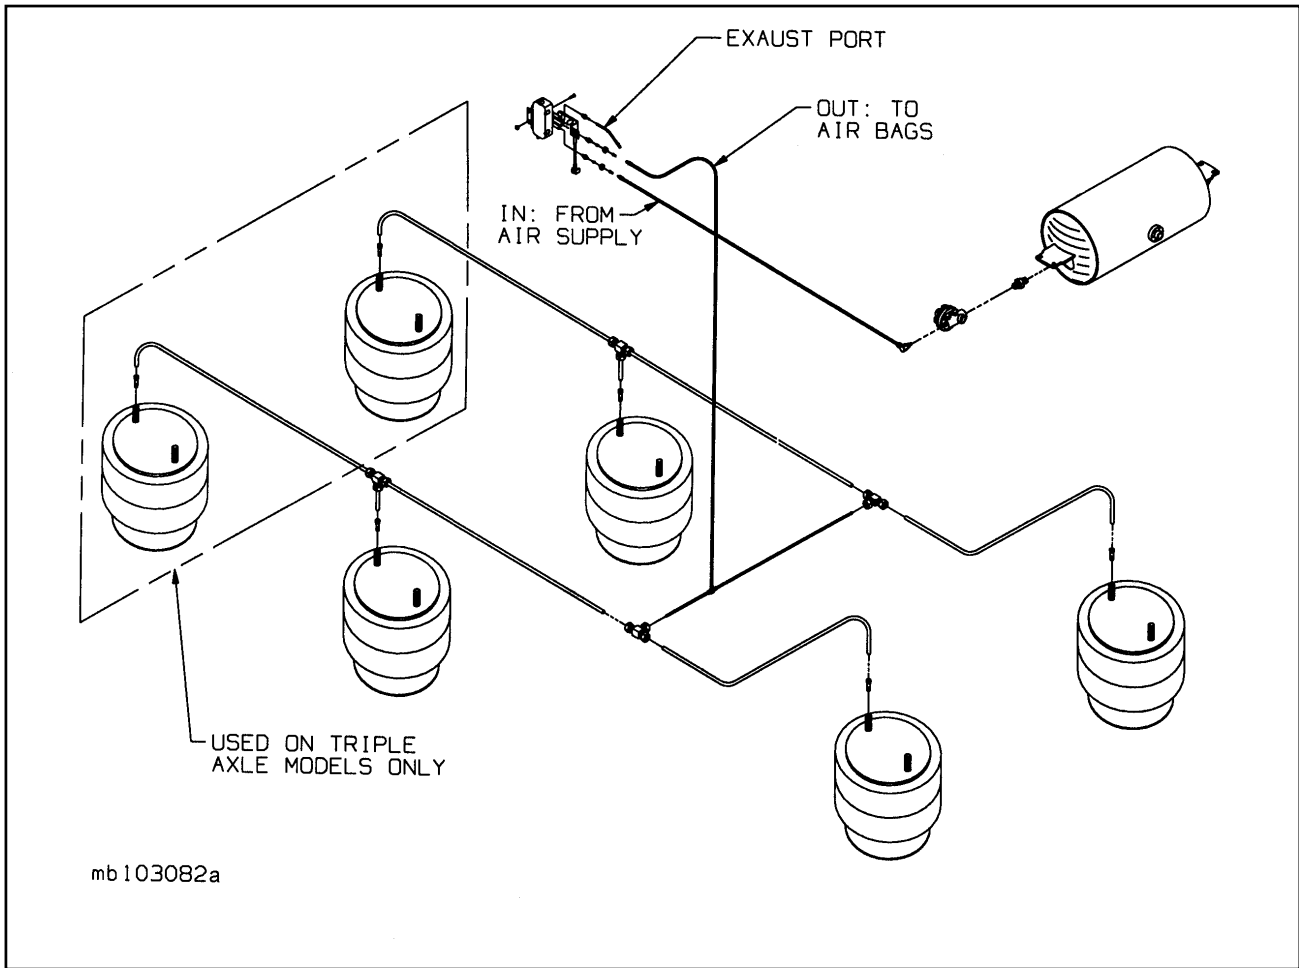

Figure 4-2 Tandem Axle Air Ride Suspension
- a. See Figure 4-2 for Tandem/Triple Axle Air Ride Suspension drawing